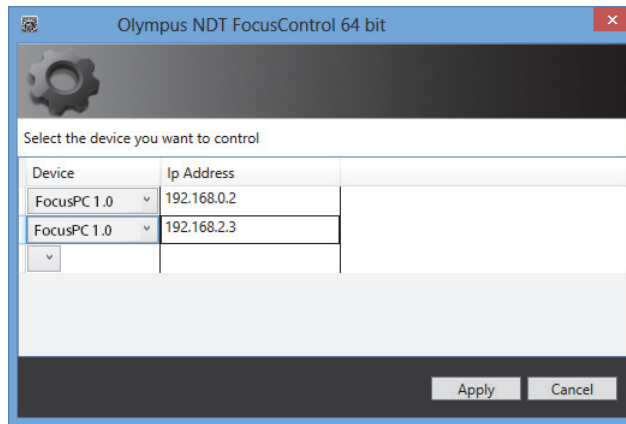

Figure 1-16 The Configuration page for selecting devices to control
The **Configuration** page appears (see Figure 1-16 on page 27).
2. On the **Configuration** page, in the lists under **Device** (selected by default), select the elements that are to be controlled (see Figure 1-16 on page 27).